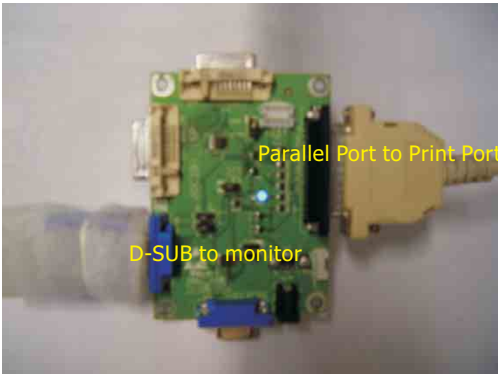

Fig. 1
- 4. DDC2BI_ISP TOOL (3138 106 10396) as shown in Fig. 1